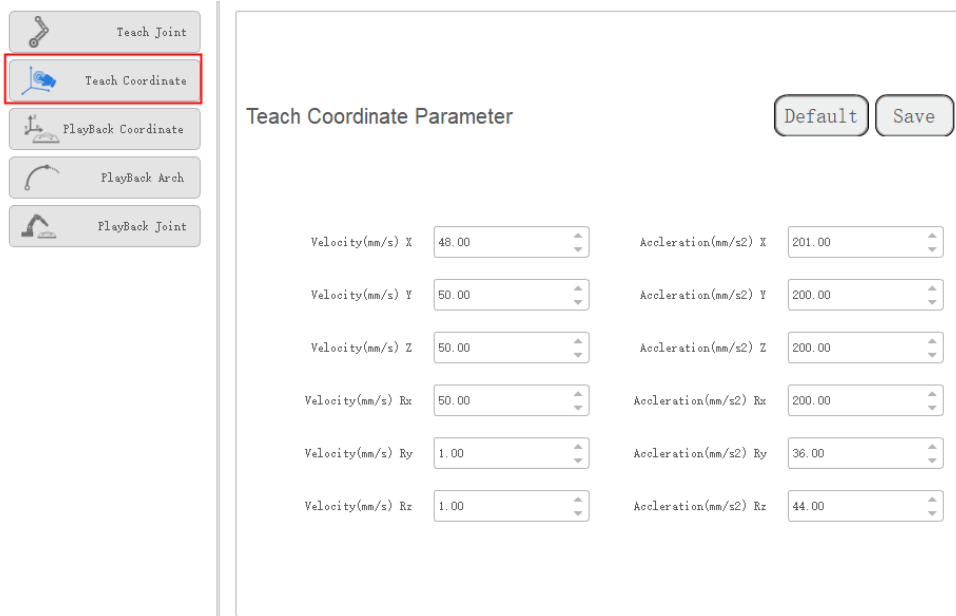

Figure 1.3 Jogging parameters in the Cartesian coordinate system
- Set the maximum velocity and acceleration in the Cartesian coordinate system when jogging a robot. The jogging parameters of a 6-axis robot in the Cartesian coordinate system are as shown in Figure 1.3.